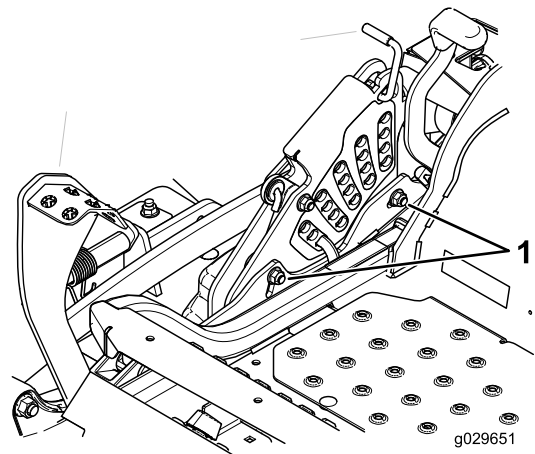

Figure 95
11. To adjust the single-point system, loosen the 2 bolts at the bottom of the height-of-cut plate (Figure 95).
13. Tighten the 2 bolts at the bottom of the height-of-cut plate (Figure 95).